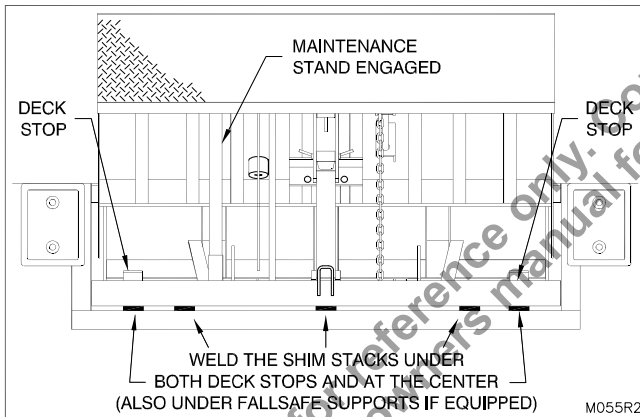

Figure 9: Weld to Front Curb Angle
19. ___ Weld front shim stacks securely to front curb angle (3" long weld) and to front frame of dock leveler. (See "Figure 9: Weld to Front Curb Angle" on page 9) Tack rear side of shims as well.